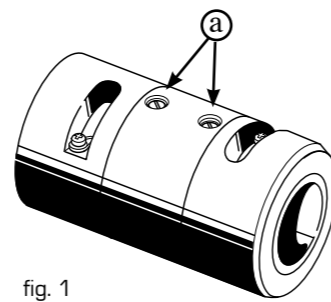

fig. 1
3. Before the fusion peel off the oxygen barrier layer of the climatherm OT-pipe completely to the stop by using the following double peeling tools. By turning the adjusting screw **(a)** (see fig. 1) counter clockwise up to the stop they can be adjusted into big peeling depth.